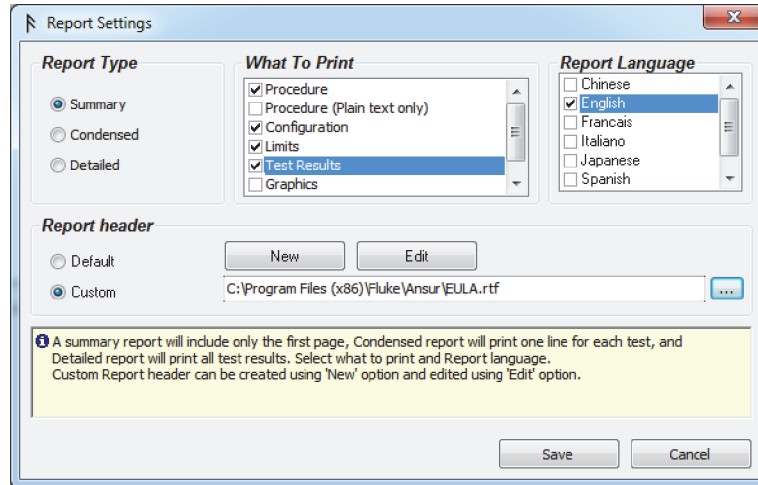

Figure 3-11. Report Settings Window
1. Click **File | Edit report settings** on the main menu bar or click the **Edit report settings** icon (🔧) on the main toolbar. The Report Settings window shown in Figure 3-11 opens.